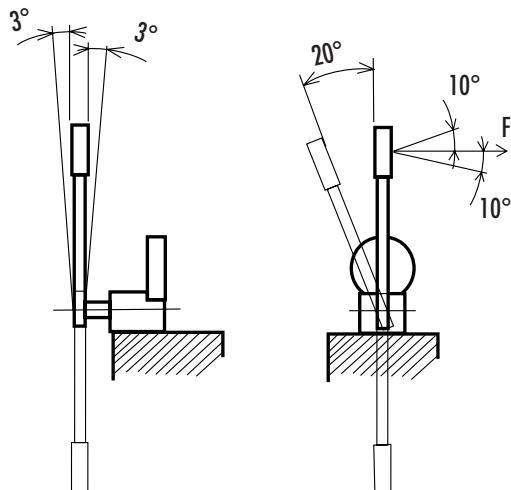

Figure 1- Wrench vertical
- 4.1) Before starting the tests, for type II torque setting torque tools, ensure that five operations without measurements have been carried out in the direction of operation, at the maximum torque capacity or the rated torque capacity and that the load is applied in accordance with figures 1 and 2.